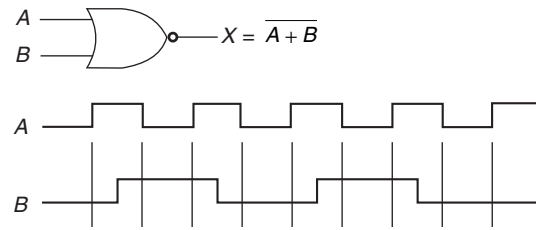

Fig. 4.96
38. Sketch the output waveform at X for two-input NOR gate with the given input waveforms. (See Fig. 4.96)